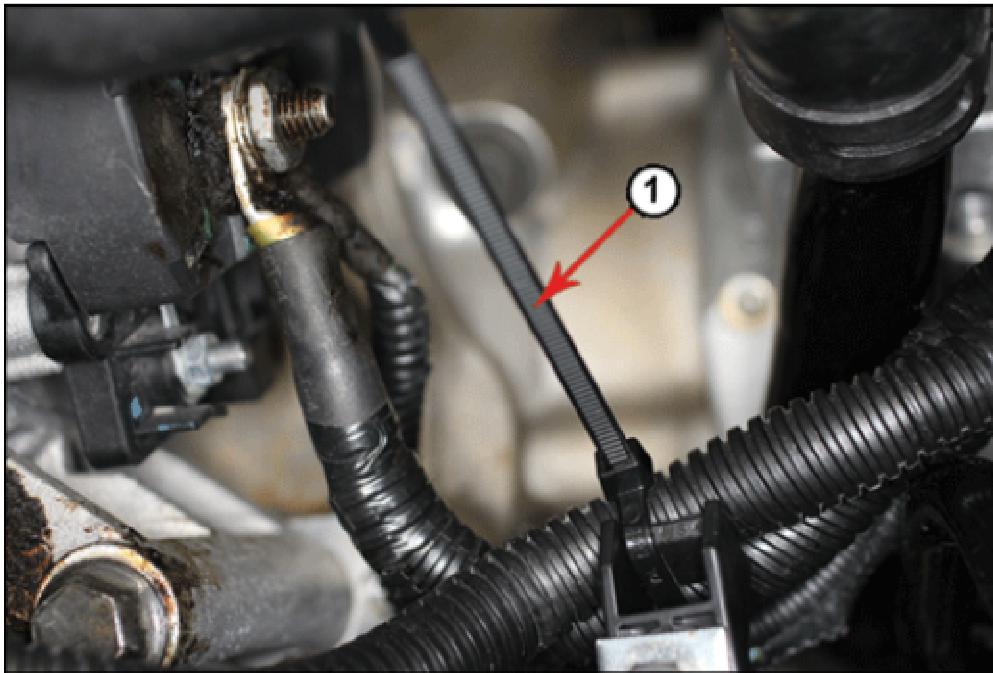

Figure 10
9. Reroute the alternator harness to the outside of the power steering hose and above the power steering high-pressure line. Attach the alternator harness to the saddle (3545771C1) using the cable strap (289862C1). Tighten the cable strap and cut off the excess strap (Figure 10).